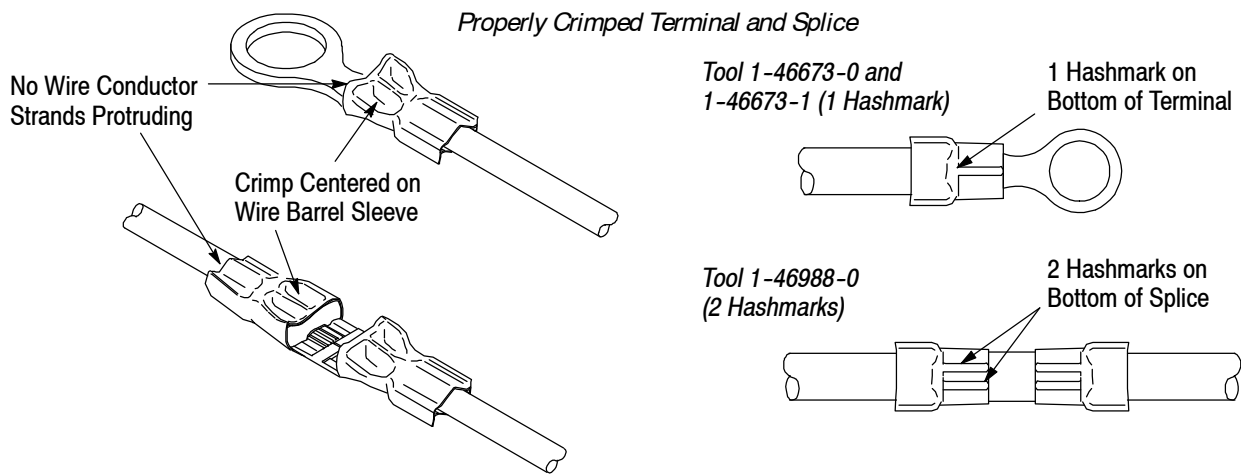

Figure 7
8. Refer to Section 5 and Figure 7 for crimp inspection.
Inspect crimped terminals and splices by checking the features described in Figure 7. Use only terminals or splices that meet the conditions shown in the “ACCEPT” column. “REJECT” terminations can be avoided through careful use of instructions in Section 4, and by performing regular head maintenance, as described in Section 6.